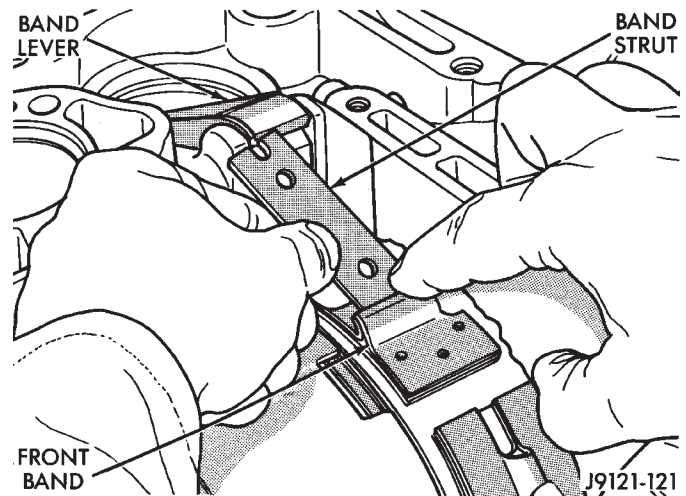

Fig. 78 Front Band Strut
(17) Squeeze front band together and remove band strut (Fig. 78).